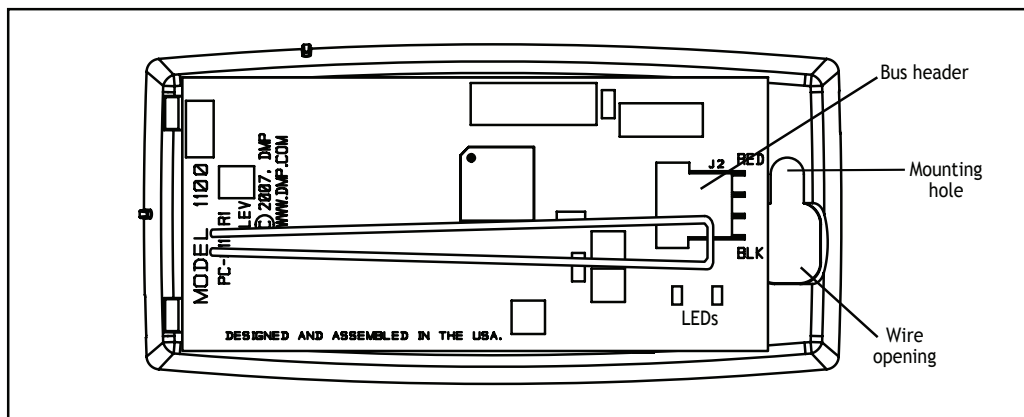

Figure 1: Receiver PCB
3. Place one screw into the mounting hole location as shown in Figure 1 or use the optional double-sided tape and secure the housing to the surface.